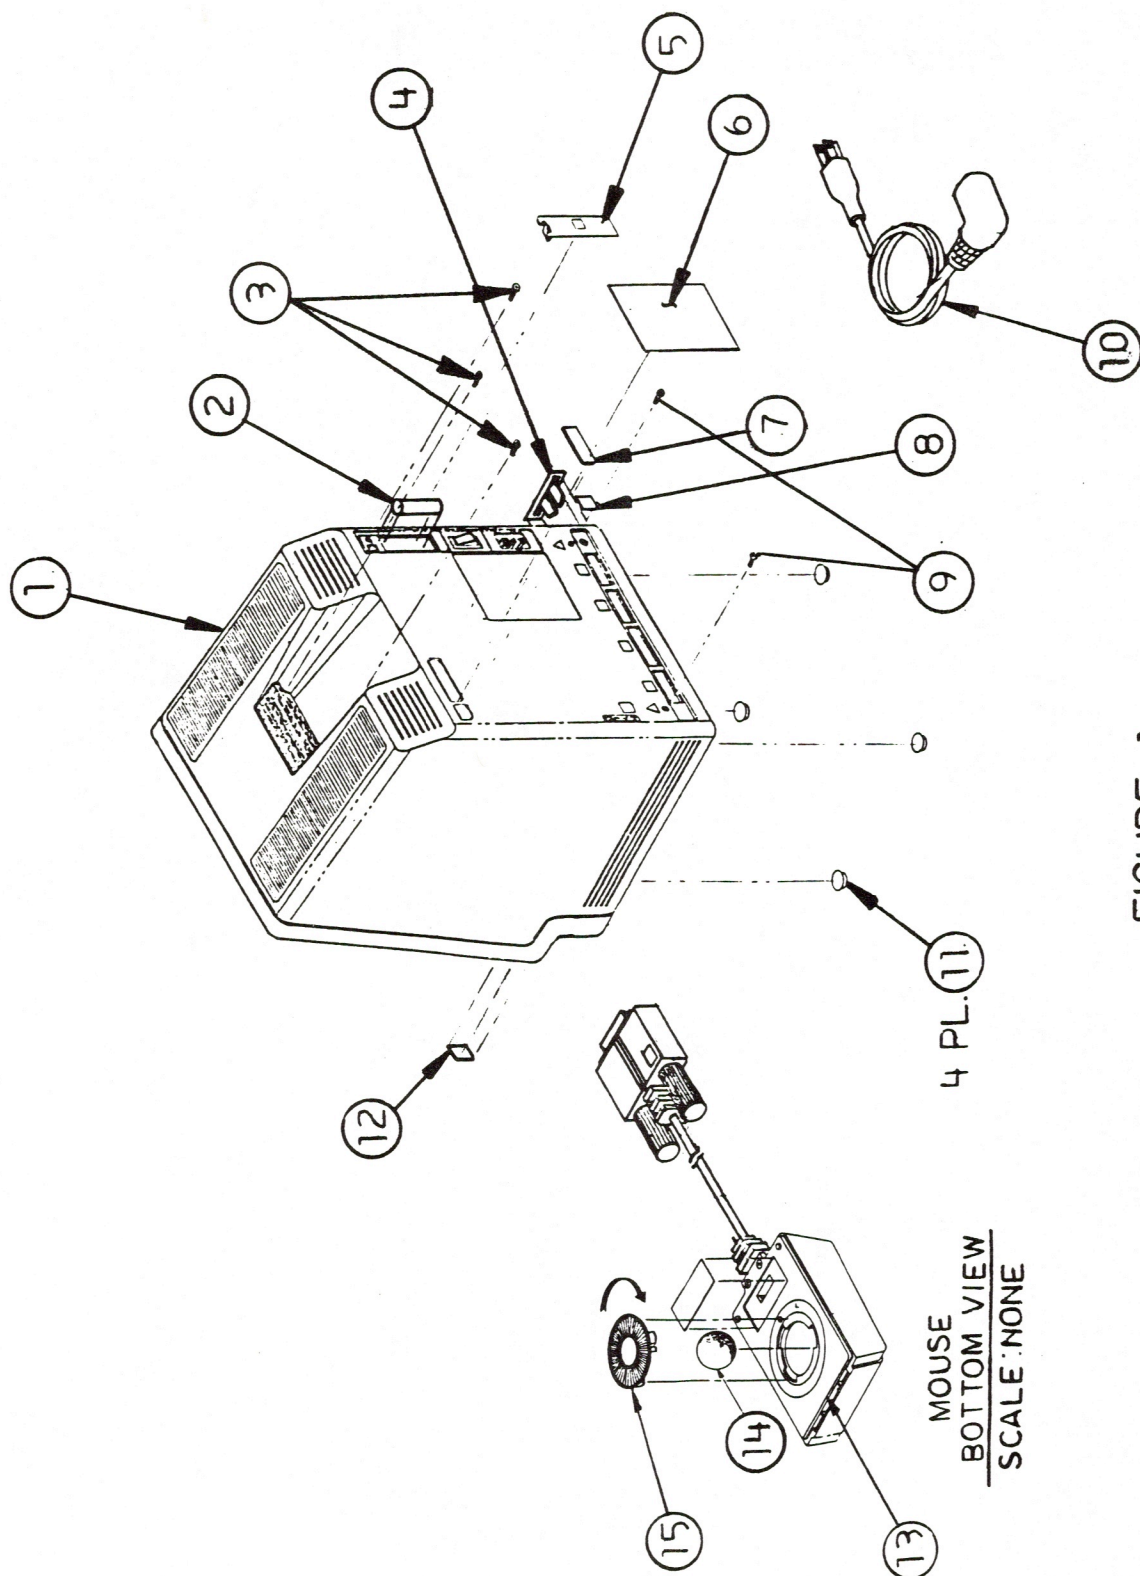

FIGURE 1
- 7.3 Macintosh External Housing (Figure 1)
□ MACINTOSH – EXTERNAL HOUSING (Figure 1)